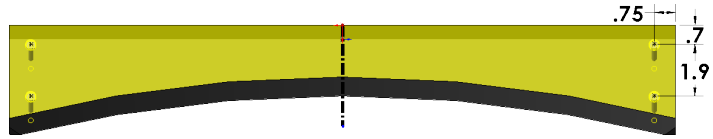

Fig. 32
Step 12. Click **Mirror Entities**  on the Sketch toolbar, **Fig. 32**.